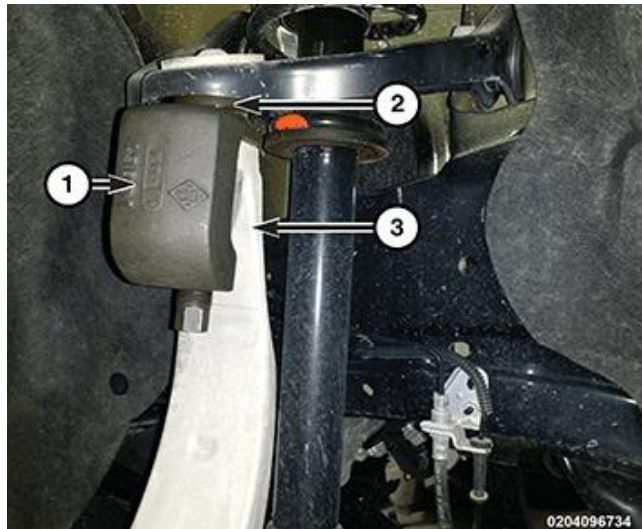

Figure 22 – Ball Joint Press C-1450A
44. Separate the upper ball joint (2) from the knuckle (3) using Ball Joint Press C-4150A (1) on each side (Figure 22).